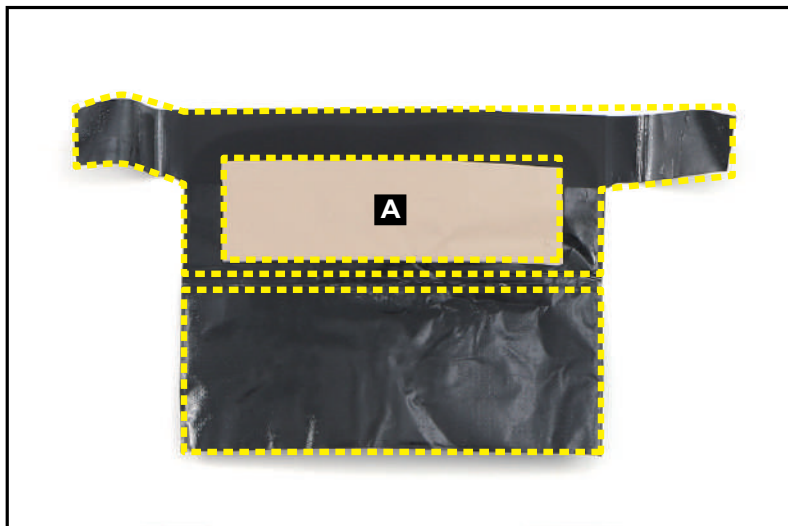

Figure 3-142. Adhesive Graphite Strips Location
The composite foil with thermal pad (A) includes the adhesive graphite strips as shown in Figure 3-142.